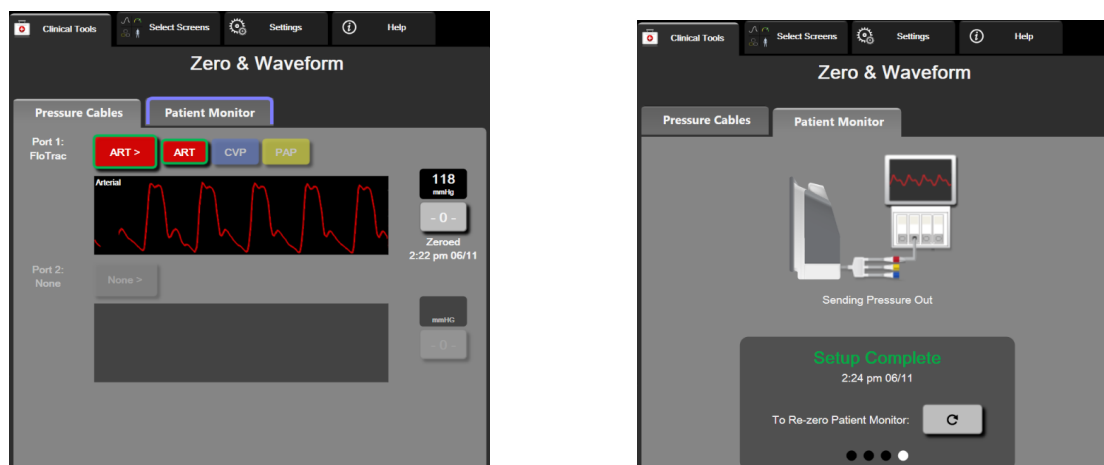

Figure 10-2 Zero & Waveform screens – Zero sensor and Pressure-Out
- 5 Touch the **Transmit Pressure Waveform** icon  to begin pressure signal output to the patient monitor. A “**Setup Complete**” message will be displayed when the live waveform is being transmitted to the connected patient monitor. See right screen shown in figure 10-2 on page 169.